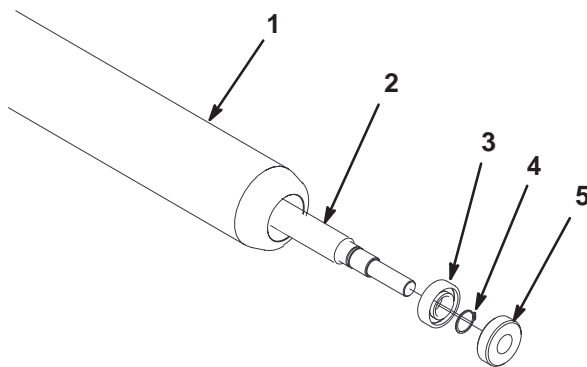

Figure 9
1. Remove snap ring on each end of roller (Fig. 9).